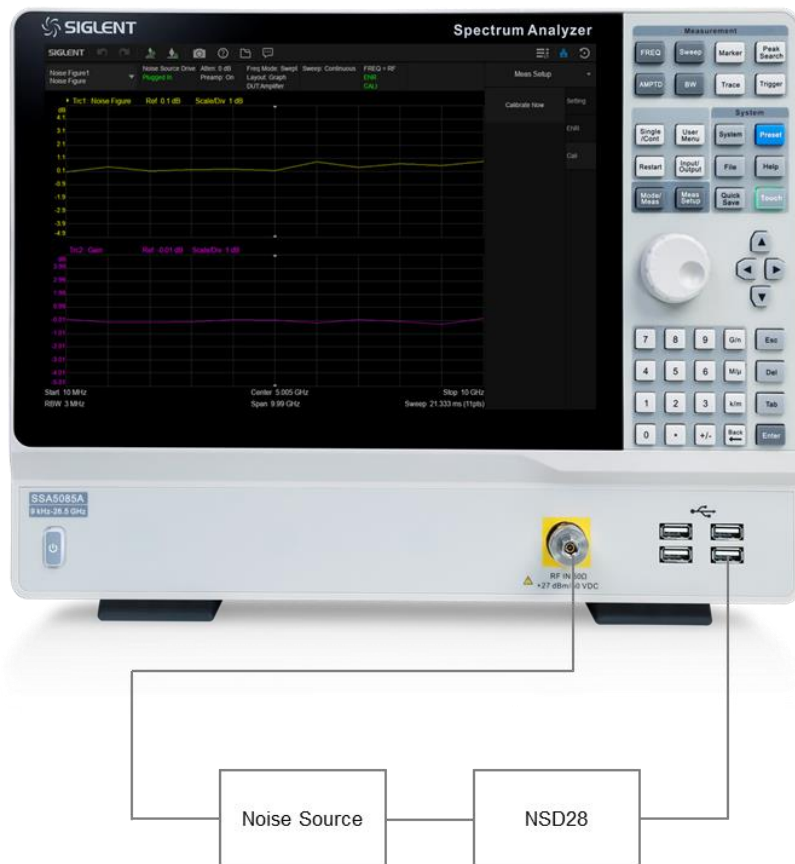

Figure 1-2 Connection setting of noise figure measurement calibration
1. After 30 minutes of warm-up, click Spectrum Analyzer in the upper left corner to enter the window management page, and click **Noise Figure (NF)** > **Noise Figure** to add noise figure analysis window. At this time, the SSA5000A works in the noise figure measurement mode.
2. Connect the noise source: Connect the noise source and the spectrum analyzer according to the calibration settings in Figure 1-2. The analyzer controls the noise source through USB connection and directly connects the output of the noise source to the RF signal input end of the analyzer.